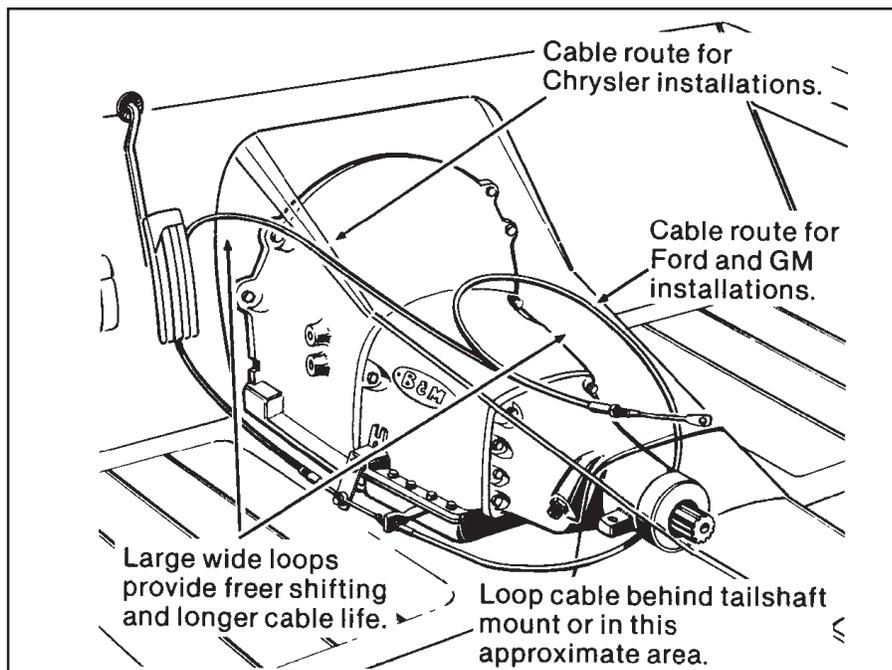

Figure 4
**ROUTE THE CABLE AS SHOWN IN FIGURE 4, AVOID SHARP BENDS WHICH WILL KINK AND DAMAGE THE CABLE.** Use cable clamps or tie wraps to secure the cable housing to the chassis to avoid contact with hot engine or exhaust system.
**STEP 12.** Route the shifter cable according to Figure 4. Avoid kinks and sharp bends and route the cable away from hot engine or exhaust parts.
**STEP 18.** Route the shifter cable according to Figure 4. Avoid kinks and sharp bends and route the cable away from hot engine or exhaust parts.
**STEP 23.** Route the shifter cable according to Figure 4. Avoid kinks and sharp bends and route the cable away from hot